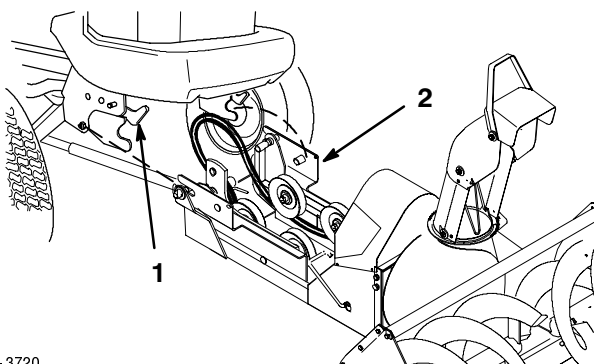

Figure 10
4. Make sure the latches on the tractor's front Attach-A-Matic™ are open. Then slide the pulley box completely into the Attach-A-Matic™ latches. Close the latches by rotating them down (Fig. 10).